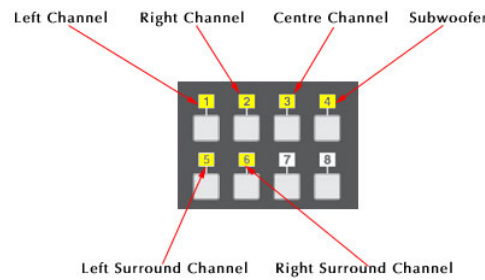

Figure 10 - Mono Busses - 5.1 Mix
5.1 mixes can be created by sending mono track bus outputs 1-6 to feed a 6 track recorder. To monitor track busses 1-6, enter External A in the Monitoring section (EXTA), and press the fifth option. If your 5.1 monitors are connected as recommended by your AWS 900 manual (set as Dolby standard), track busses 1-6 will equate to Left, Right, Centre LFE, Left Surround and Right Surround, as shown in Figure 10.